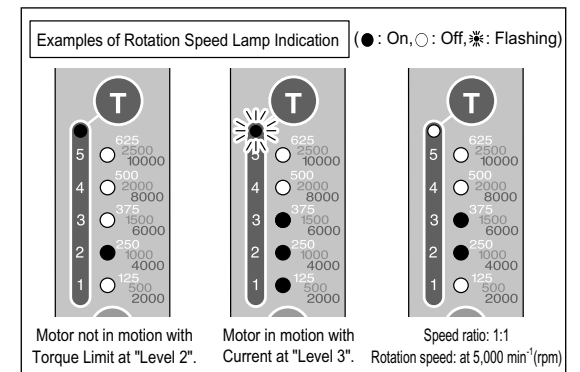

Fig. 3
- When the motor handpiece stops, it lights the torque limit value lamp. (Fig. 3)
- While the motor handpiece rotates, it lights the current flow value lamp that shows the loading condition. (Fig. 3) Pressing the Torque switch or the Power/Rotation Speed Selector switch, while the motor handpiece is in motion, momentarily lights the set value lamp. (Pressing the switch before the momentarily lit lamp returns can also set the indicated value)
- When the rotation speed is displayed, only one lamp lights for the set value of the present rotation speed. When two lamps light simultaneously, it means that the rotation speed is between the two lit values. (Fig. 3)